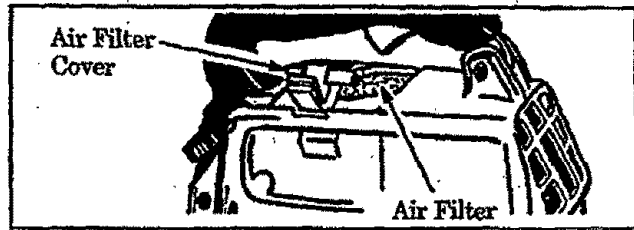

Figure 13
2. Remove the air filter cover on top of the unit (under the handle). Figure 13.
3. Remove the air filter. Figure 13.